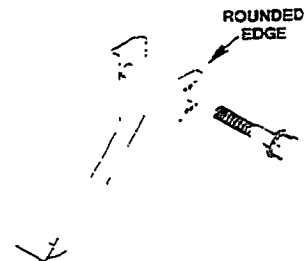

Figure 29
- **Note:** The blade plates must be assembled with the rounded edges facing into the blade and the word “out” facing away from the blade (Fig. 29).